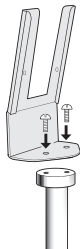

Fig. 8
8. Attach the floor stand mount bracket to the top of the stand assembly using the two (2) 1/2" screws and the phillips-head screwdriver, Fig 8.